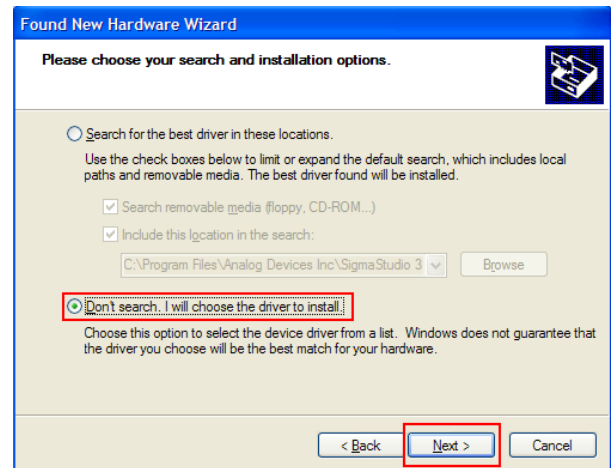
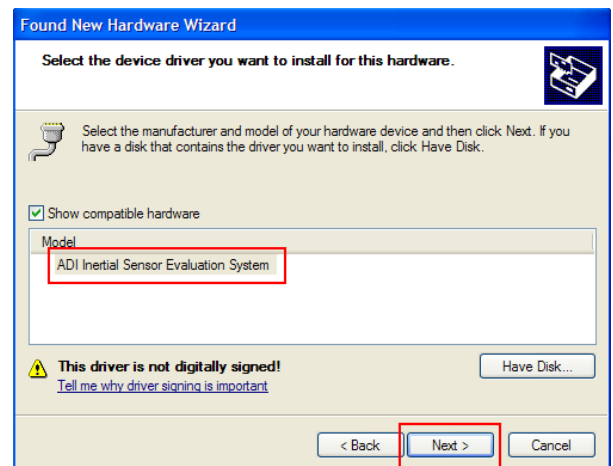

Figure 3. Selection of the Driver to Install
Figure 4. Selection of the ADI Inertial Sensor Evaluation System Drivers
3. Select **Don't search. I will choose the driver to install.** (see Figure 3) and select **ADI Inertial Sensor Evaluation System** from the model list (see Figure 4).